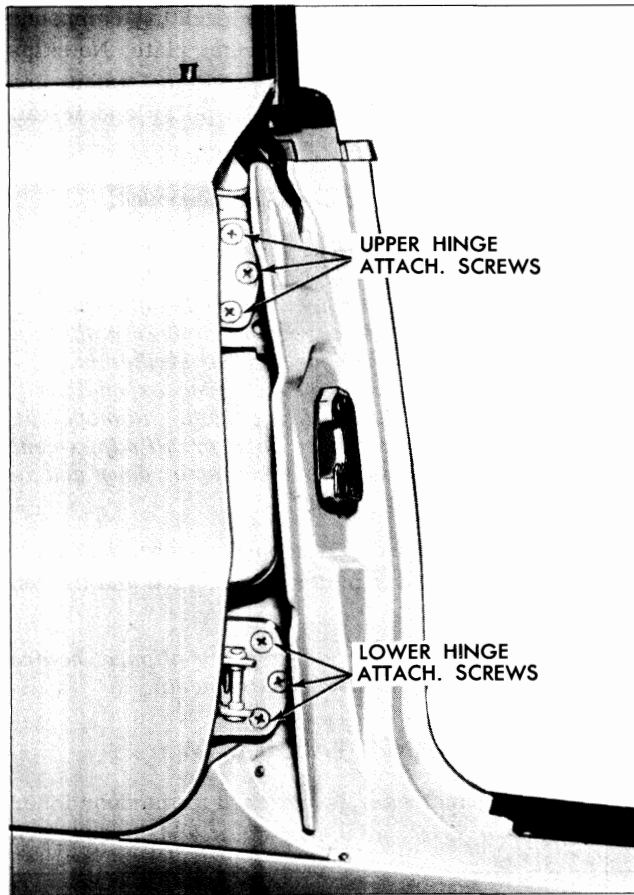

Fig. 3-43 Door Hinge Attachment - At Body Pillar
4. With door properly supported, remove three upper and lower hinge attaching screws at hinge pillar or body center pillar, depending on method of removal (Figs. 3-43 and 3-44).